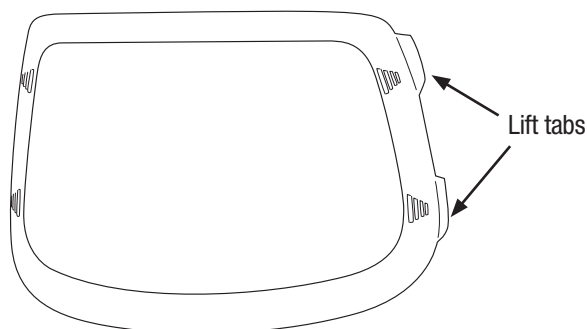

Fig. 19a
- a. Lift on the tabs on either side of the frame to remove it from the inner grinding welding helmet (Fig. 19a).